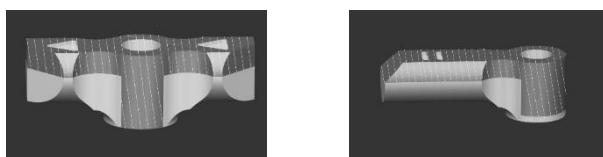

Figure 1. Reference surfaces
- make sure to register all key reference surfaces of smartflag in the scanning process - Figure 1.